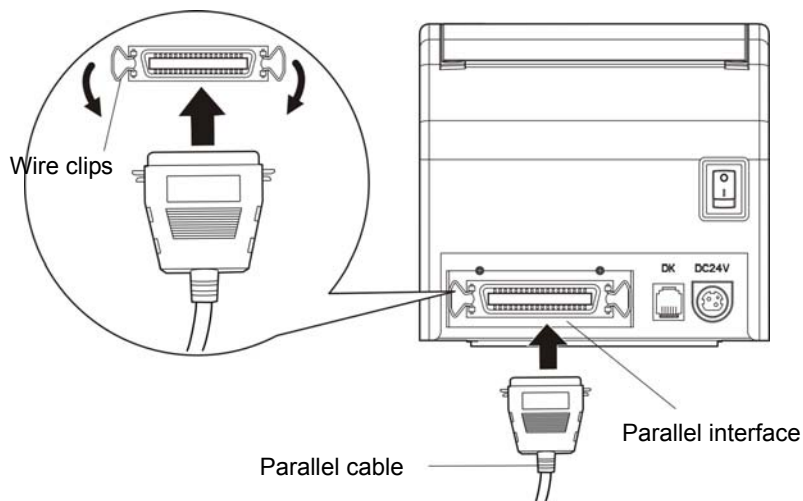

Figure 2-3 Connecting the parallel cable
1. Make sure the computer and the printer are both turned off, plug the parallel cable to the parallel interface of the printer, Squeeze the wire clips on both sides and make the connector fixed. (As shown in Figure 2-3)